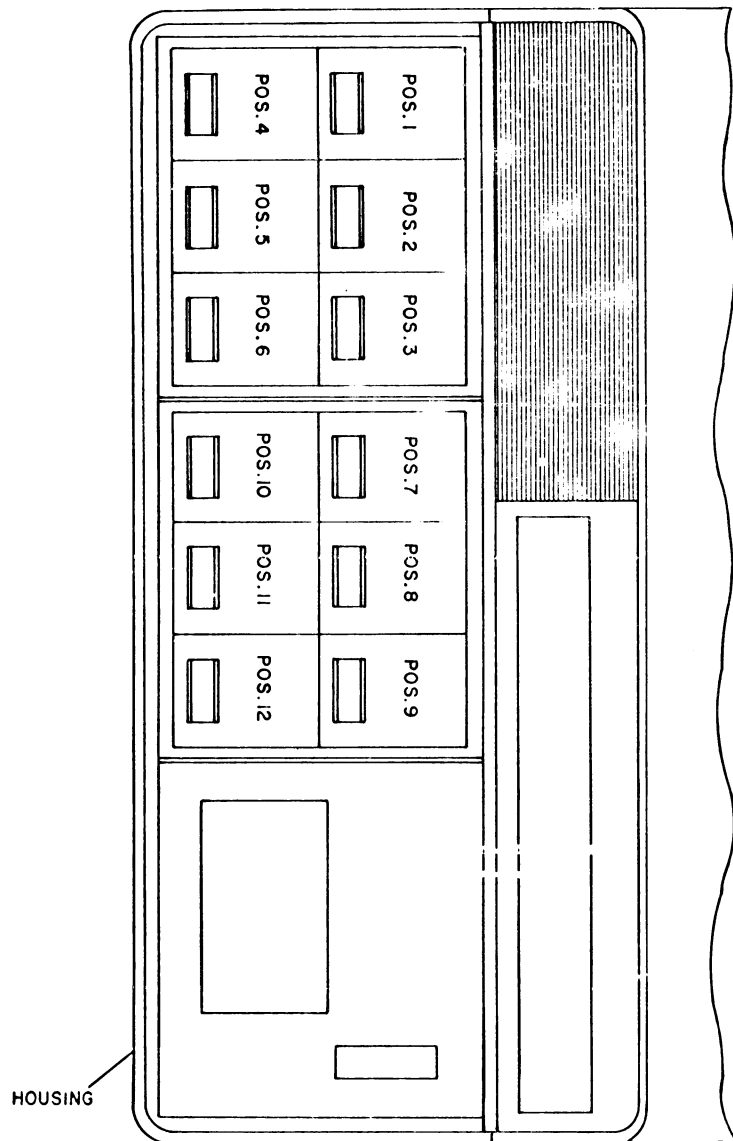

FIG. 2
4. INSTALL SWITCH MODULE IN HOUSING AS SHOWN IN TABULATION AND FIG. 2. (REMOVE SWITCH DUMMY, IF PRESENT, AND RETURN TO STOCK)